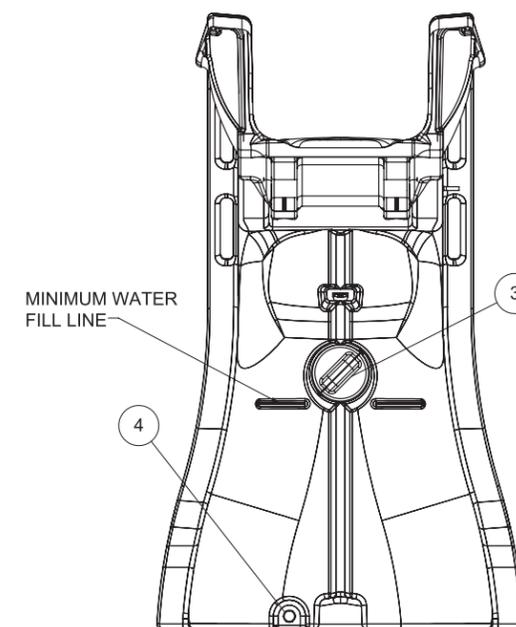

Figure 12
4. The slide must not be used unless the ladder is filled with water up to the minimum fill line, see **Figure 12**.
5. Install the plug (4) into the drain hole shown in **Figure 12**. It is recommended to use a thread sealant or Teflon tape on the threads to prevent leaking. To fill the ladder with water, remove the fill cap (3) by turning counter clockwise and pulling outward to remove. Remove the cap and fill ladder base with water up to the minimum fill line. Replace the cap by inserting into the hole and turning clockwise to lock into place.